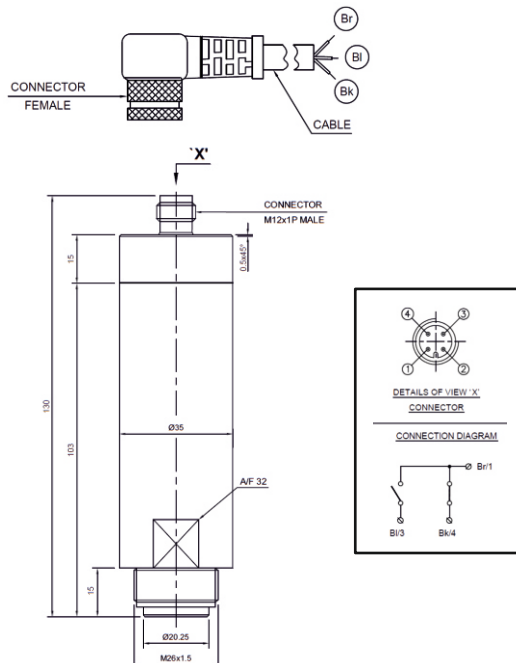

Figure 11: Travel Switch connection diagram
5.3 Travel Switch : (Refer to Figure 11)